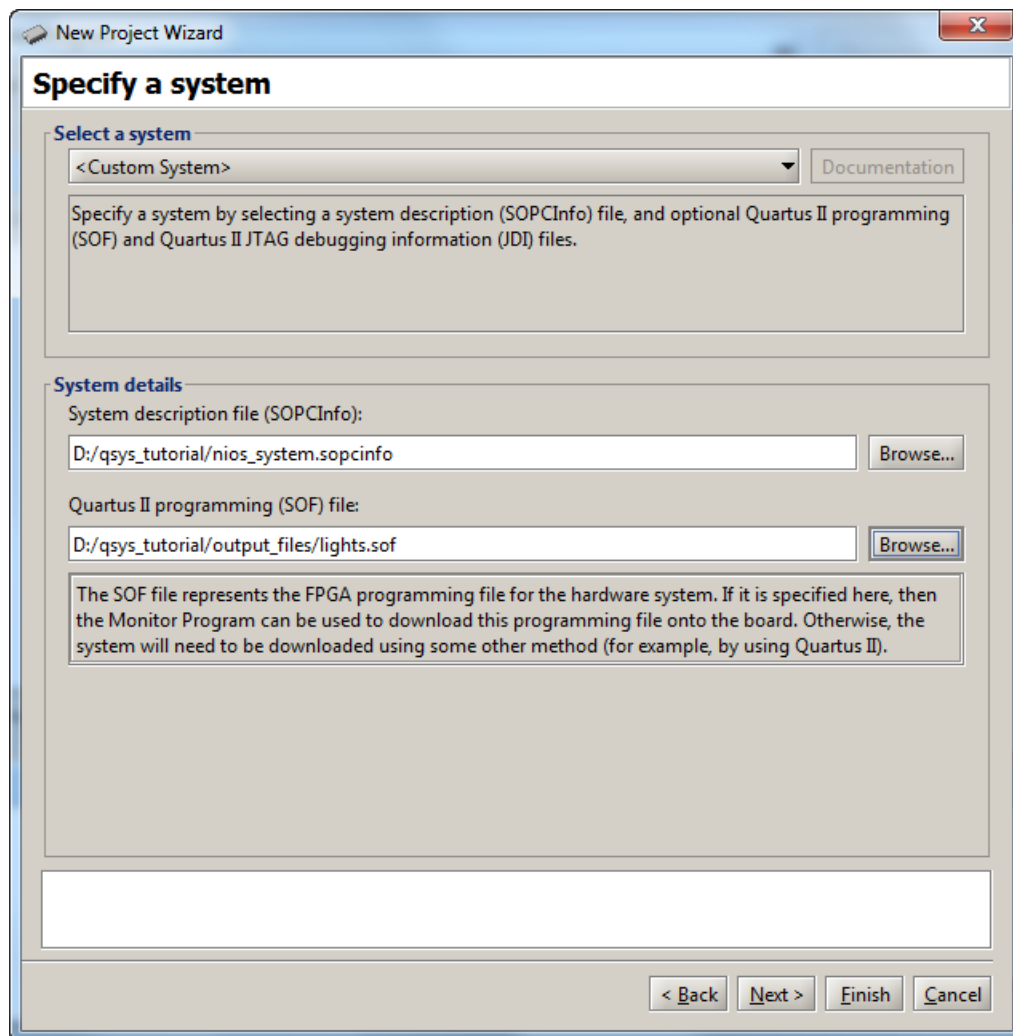

Figure 27. The System Specification window.
3. Select Nios II as the Architecture and click **Next**, leading to Figure 27.